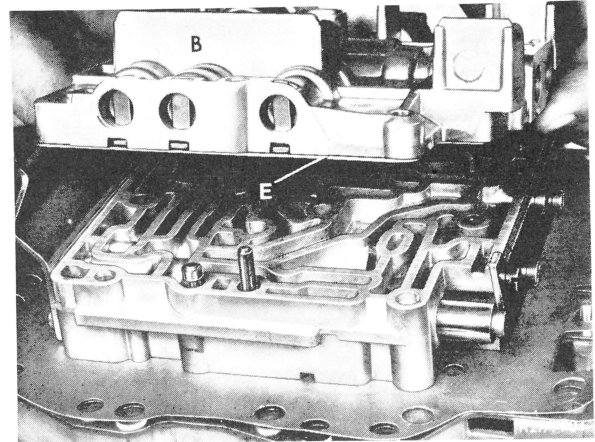

Fig. 13
**22** Place intermediate plate (E) on top (B), watching out for correct seat of spring-loaded ball (34) and filter (50) (Fig. 13).